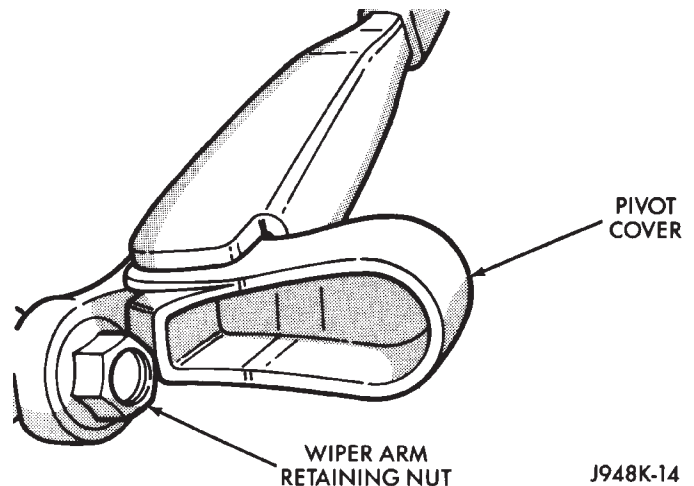

Fig. 8 Rear Wiper Arm Remove/Install
(1) Remove the wiper arm assembly by lifting the pivot cover and removing the retaining nut (Fig. 8).